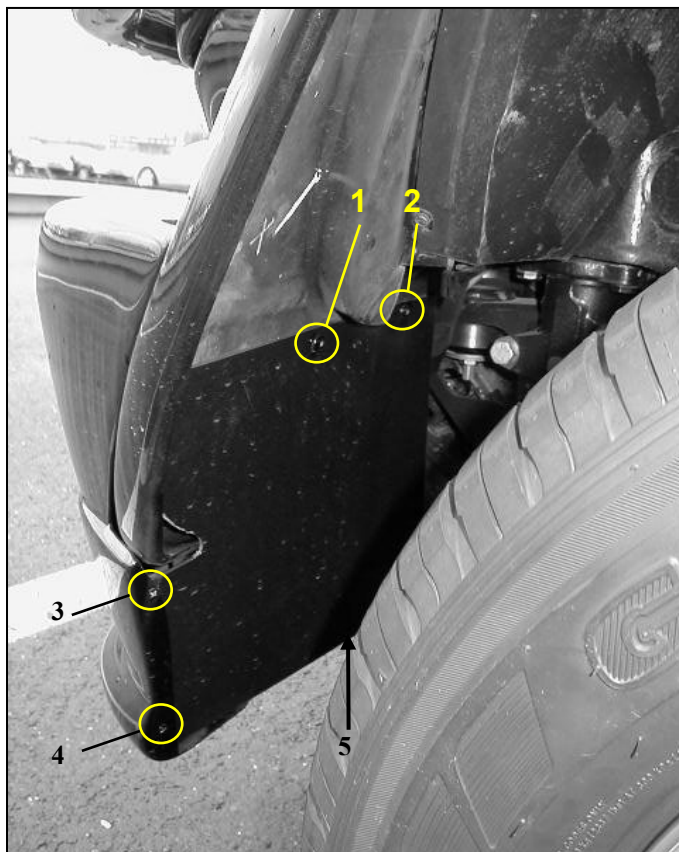

Fig. 6
- Then, install the splash guard as shown in figure 6: